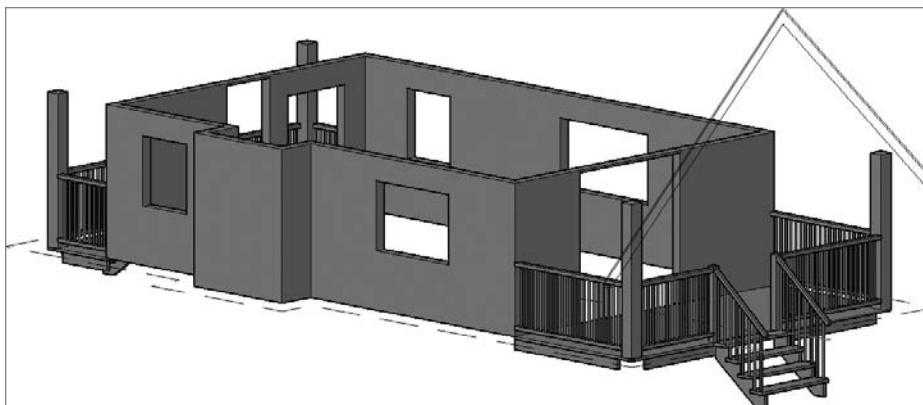

FIGURE 16.77 Eastern edge of the 3D model after aligning the roof polylines to the model
- 11. Zoom out so the entire eastern side of your cabin is viewable. Your model should look like Figure 16.77.